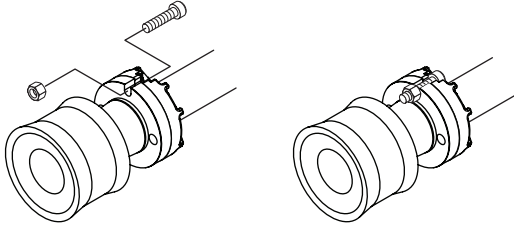

Figure 24
9. There is a groove in the ram flange that will line up with a groove in the cylinder flange. The M12 x 45 bolt with nut will drop into this groove and allow you to pull the ram out. The fit should be snug, but there is no need to tighten the nut with tools (Figure 24). The ram flange and cylinder flange are shown outside of the waterbox for clarity of the illustration.